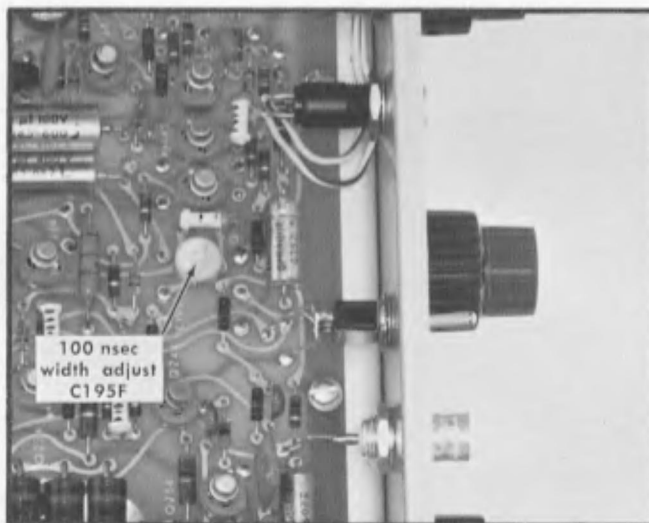

Fig. 4-16. Location of 100 nS Pulse Width capacitor C195F.
g. Adjust C195F (see Fig. 4-16) for 100 nanoseconds pulse width. Allowable error is $\pm 3\%$, however, it is possible to adjust more closely than this.